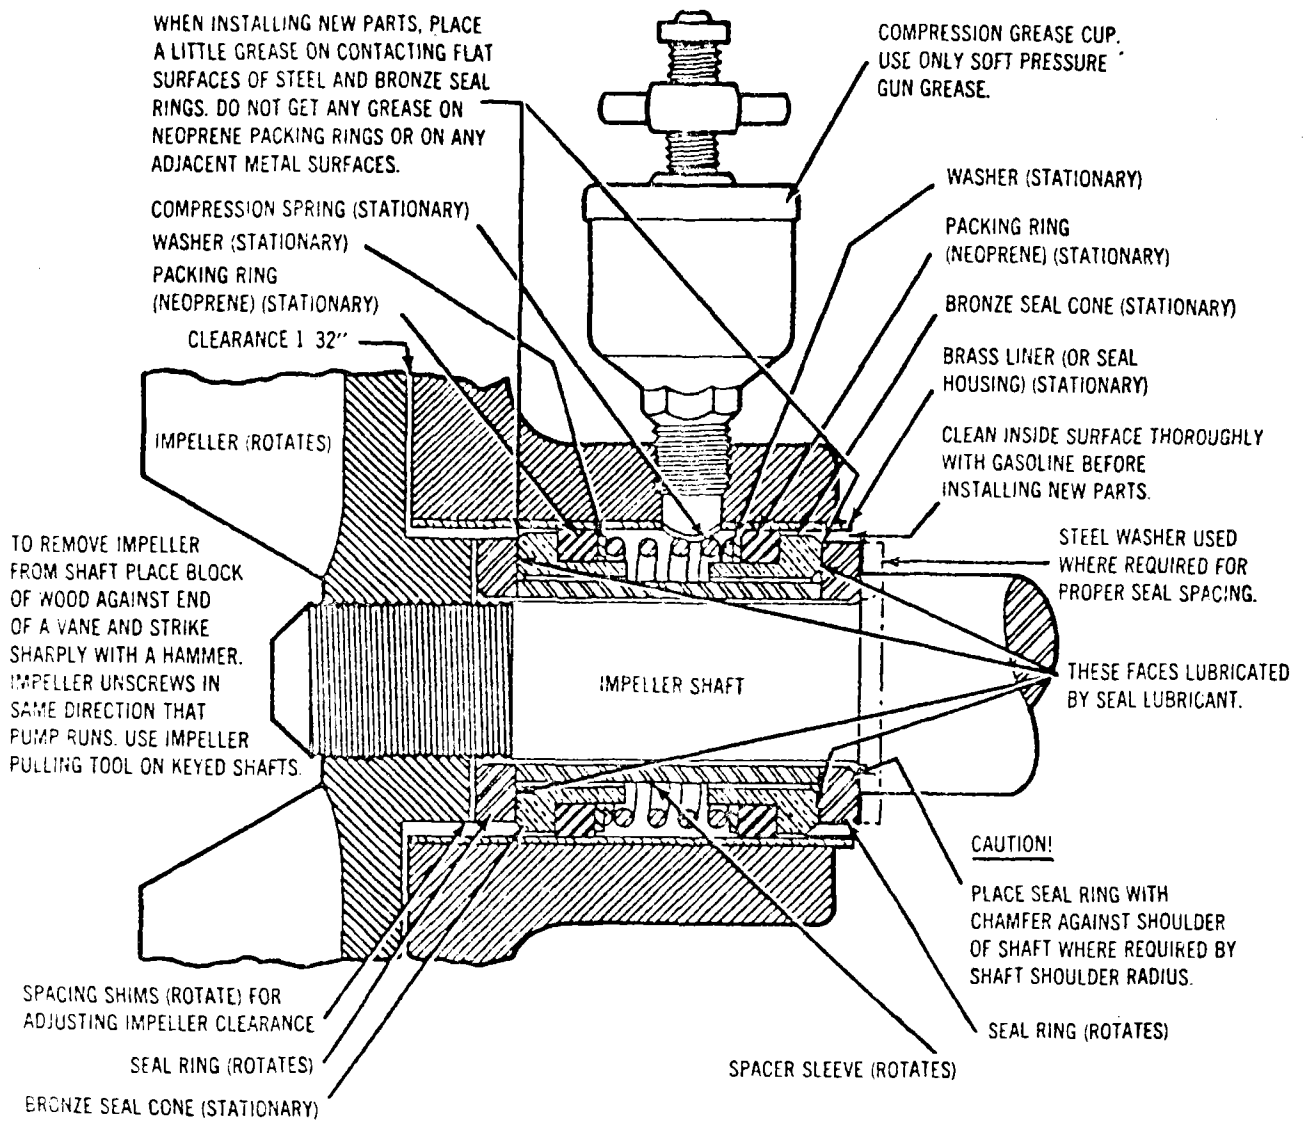

Figure 15. Installation of a typical grease-lubricated mechanical seal.
c. When installing the seal, take care to keep the seal parts free from dirt or foreign matter. Install the seal as shown in Figure 15.